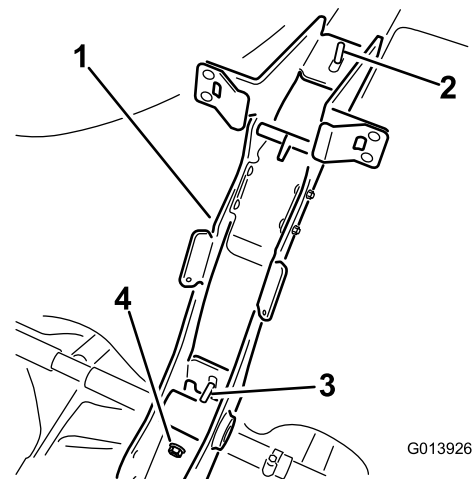

Figure 4
7. Secure the main support frame to the tank strap using 2 locknuts (Figure 4).